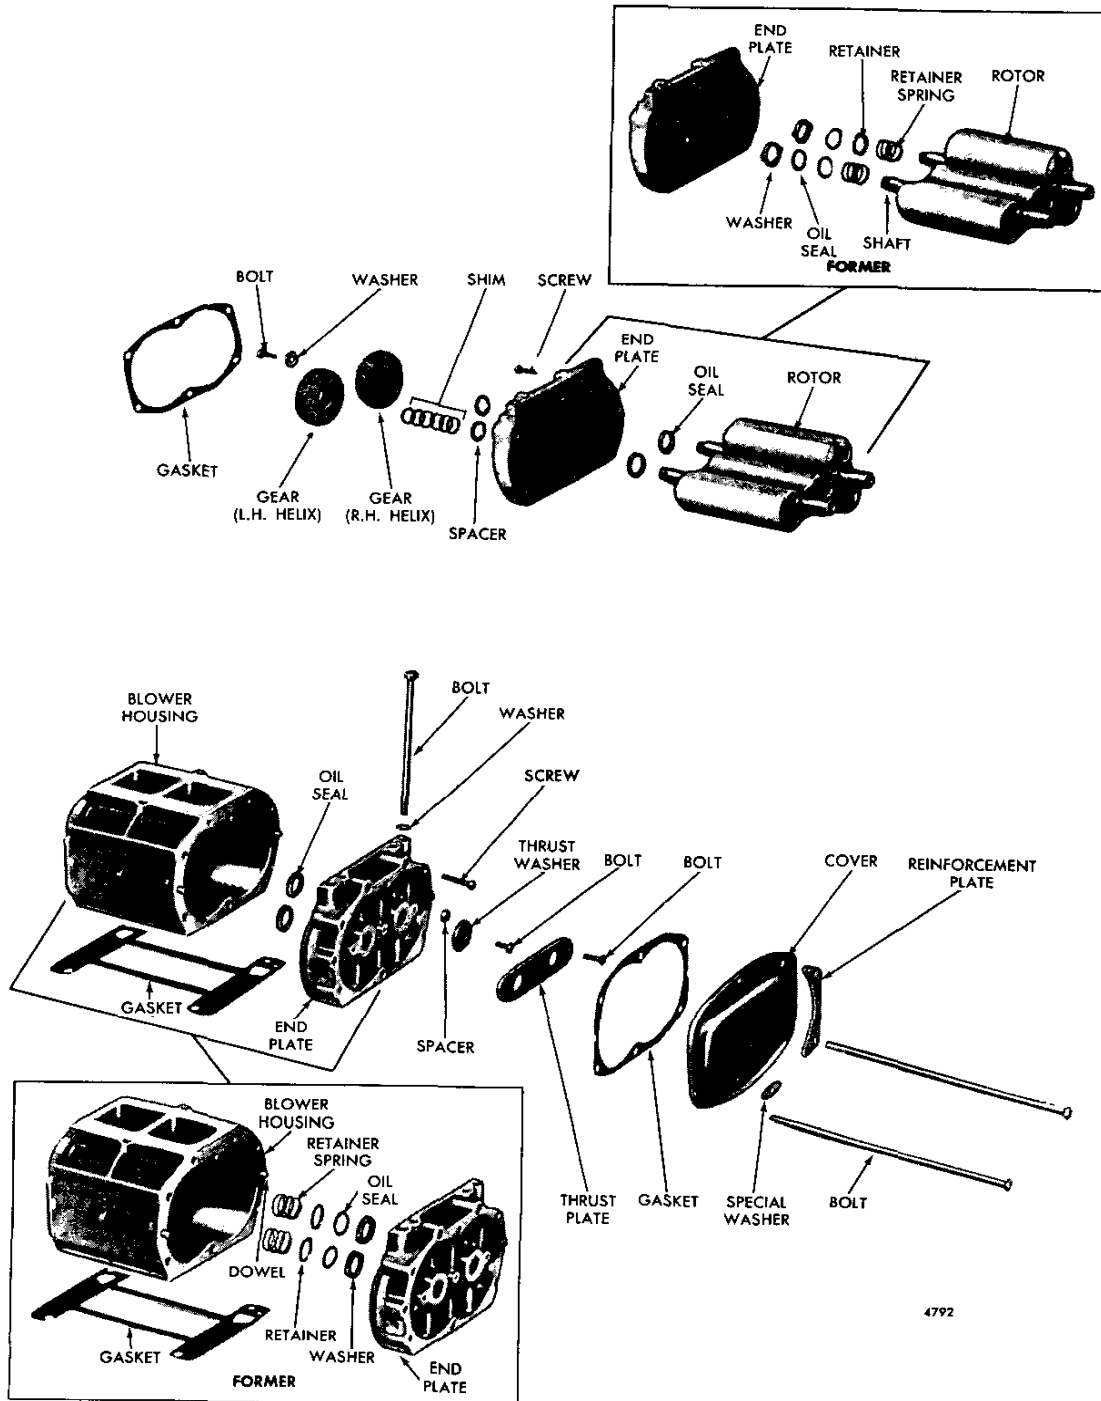

Fig. 6 - Typical Blower Details and Relative Location of Parts (3-53 Engine Blower)
4. At the other end of the blower, remove the three thrust plate bolts, the thrust plate and three spacers from the front end plate. Remove the bolts and thrust washers (refer to Fig. 6).
Refer to Figs. 6 and 7 and assemble the blower as follows: